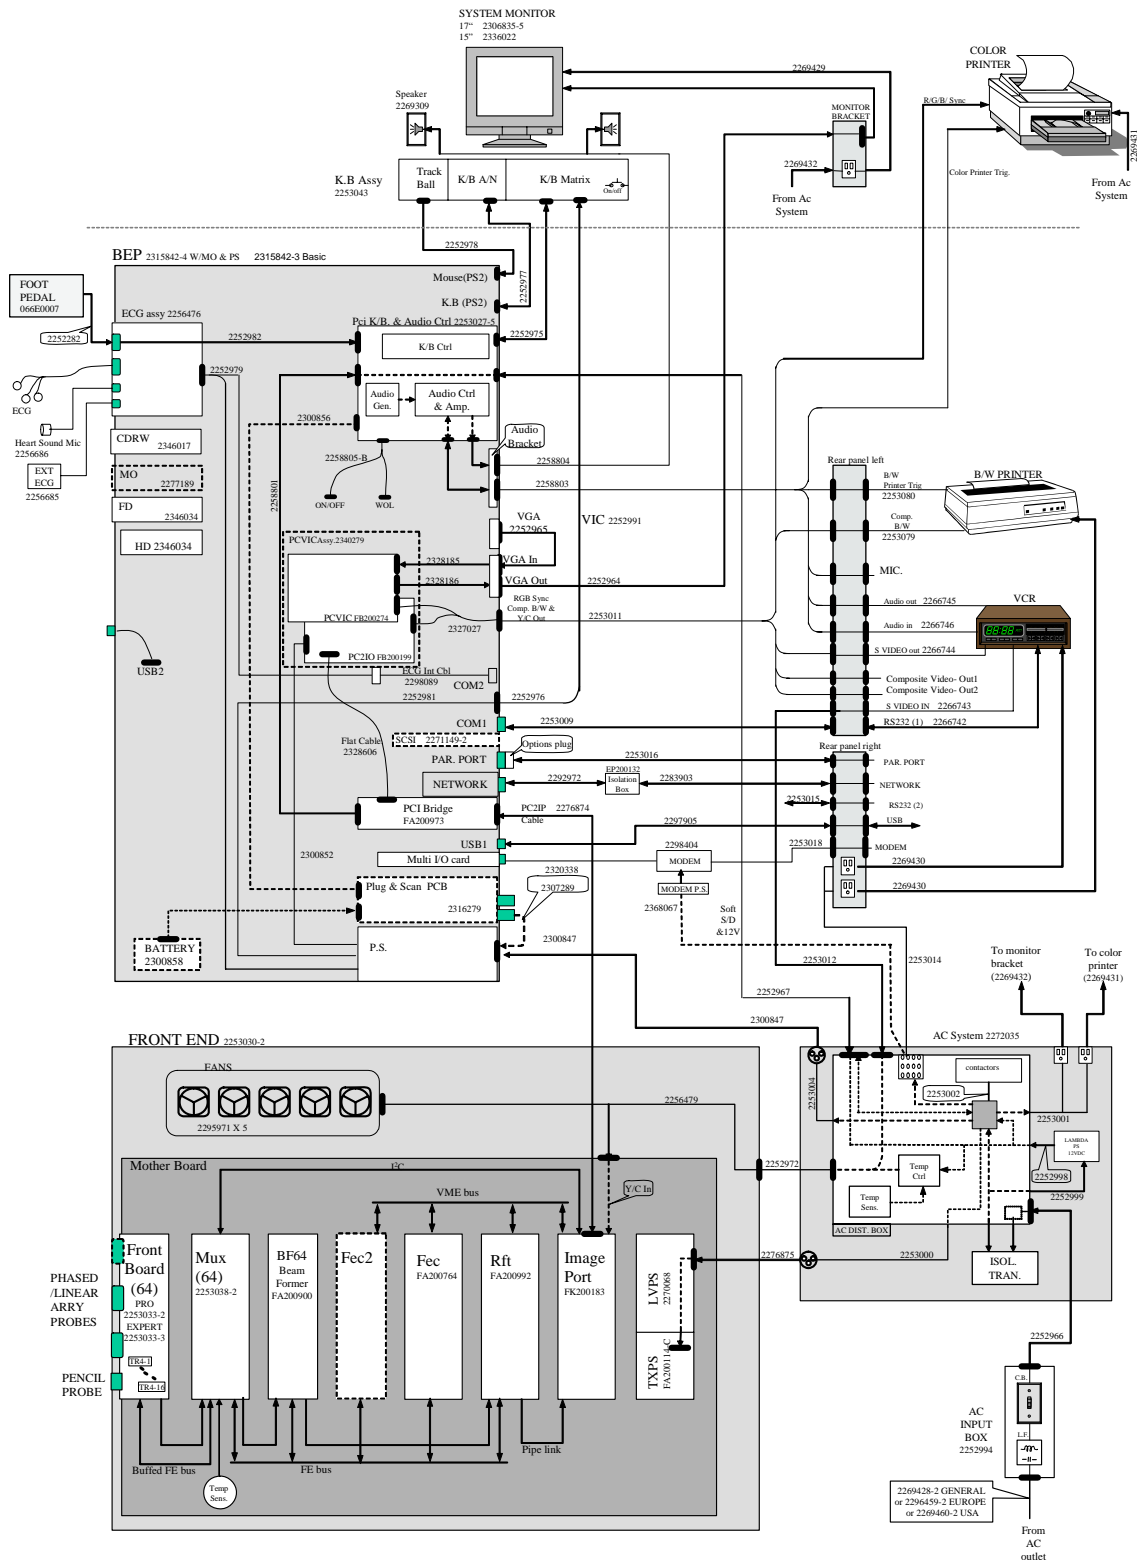

Figure 5-3 System Cabling Diagram - Vivid 3N Pro/Expert - RFT Configuration
- Figure 5-3 "System Cabling Diagram - Vivid 3N Pro/Expert - RFT Configuration" on page 5-6.